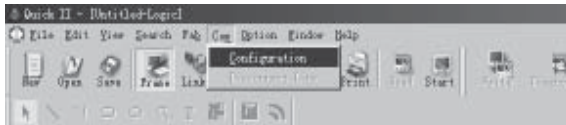

Fig. 4.2: Communication Configuration
3. Click the left mouse button and an **Insert dialogue box** appears, as shown in Fig. 4.2: